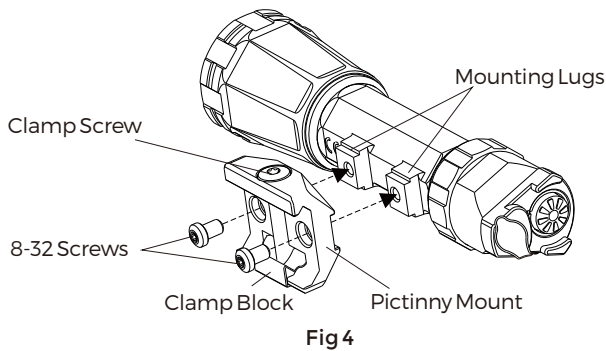

Fig 4
- 1) Align the mounting holes of the Picatinny Mount with the threaded holes of mount lugs on the RAID body. Use two included 8-32 screws to attach the Picatinny Mount to the RAID body. Using the included tool tighten the screws to 15-20INCH/lbs. (See Fig 4)